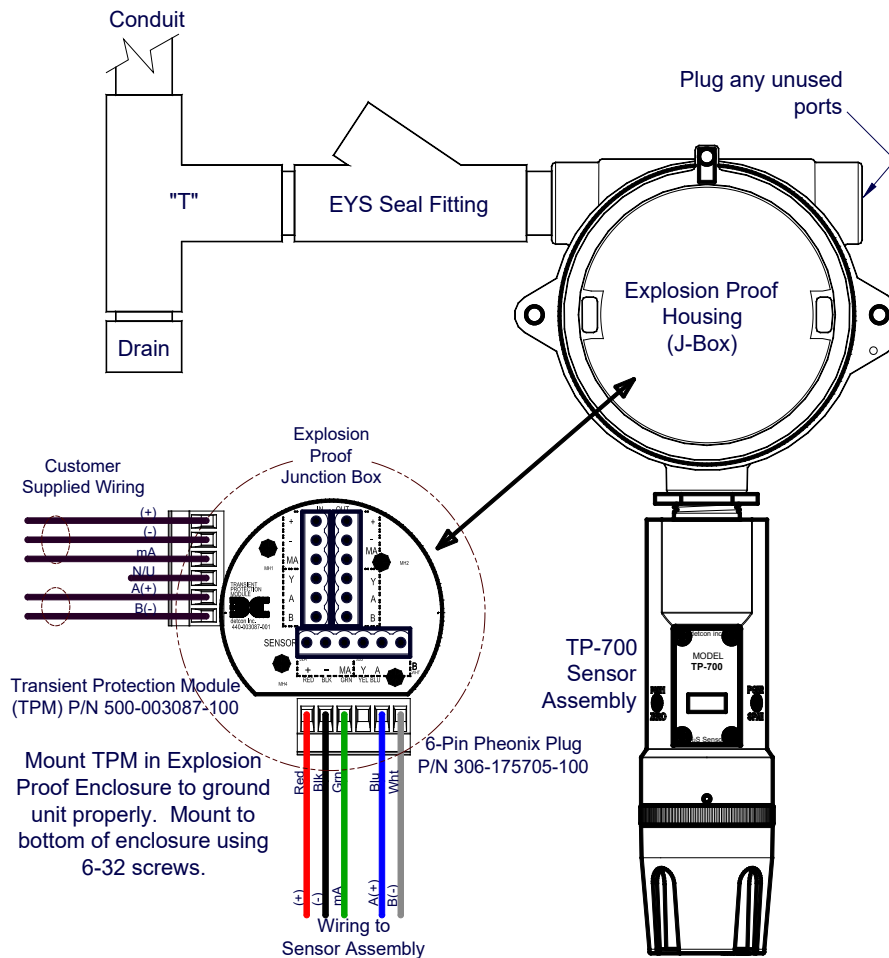
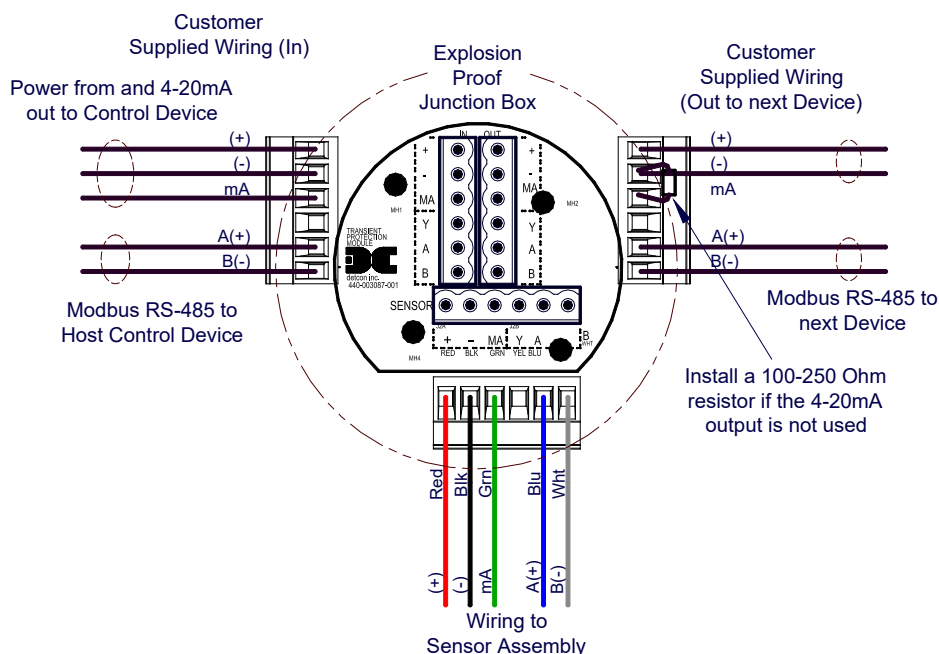

Figure 10 Typical Installation
Figure 11 Sensor Wire Connections
NOTE: In all installations the gas sensor should point straight down (refer to Figure 10). Improper sensor orientation may result in false readings and permanent sensor damage.
Proper electrical installation of the gas sensor is critical for conformance to Electrical Codes and to avoid damage due to water leakage. Refer to Figure 10 and Figure 11 for proper electrical installation.
NOTE: If a conduit run exits the secondary port, repeat the installation technique shown in Figure 10.
In Figure 10, the drain allows H₂O condensation inside the conduit run to safely drain away from the sensor assembly. The electrical seal fitting is required to meet the National Electrical Code per NEC Article 500-3d (or Canadian Electrical Code Handbook Part 1 Section 18-154). Requirements for locations of electrical seals are covered under NEC Article 501-5. Electrical seals also act as a secondary seal to prevent water from entering the wiring terminal enclosure. However, they are not designed to provide an absolute watertight seal, especially when used in the vertical orientation.
NOTE: For products utilizing the aluminum junction box option, the conduit seal shall be placed at the entry to the junction box (see Figure 10 as an example). For products utilizing the stainless steel junction box option, the conduit seal shall be placed within 18" of the enclosure. Crouse Hinds type EYS2, EYD2 or equivalent are suitable for this purpose.
- b) Observing correct polarity, terminate the 3-conductor 4-20mA field wiring (+, -, and mA) to the sensor assembly wiring in accordance with the detail shown in Figure 11. If the 4-20mA output is not used, the green wire from the sensor must be connected to the (-) terminal on the Transient Protection Module.
- c) If applicable, terminate the RS-485 serial wiring as shown in Figure 11. Use the second plug (Out) as termination point on the customer side to facilitate a continuous RS-485 serial loop.